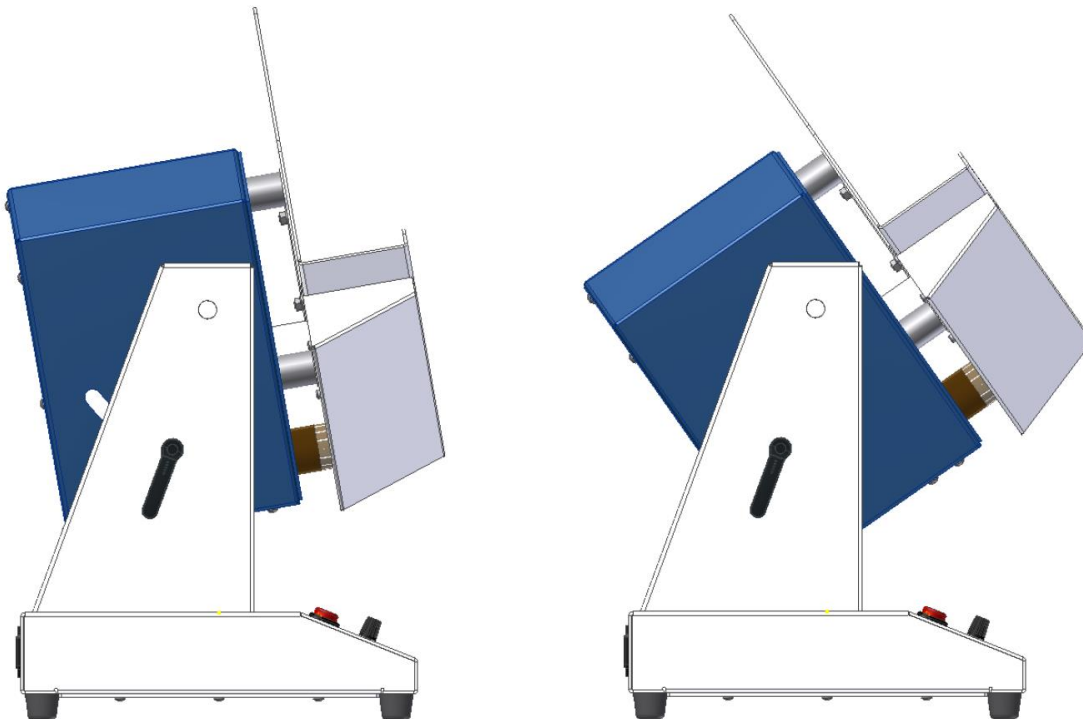

Fig. 2: The inclination of the stacking compartment
Using the locking levers (3) the angle of inclination of the stacking compartment (1) can be changed as required - see fig. 2.